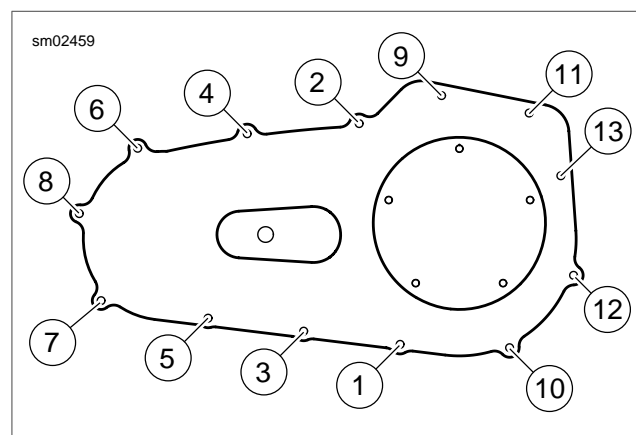

Figure 6-3. Primary Chaincase Cover Torque Sequence
5. See Figure 6-3. Tighten primary cover fasteners (1-13) to 108-120 in-lbs (12.2-13.6 Nm) in the sequence shown.